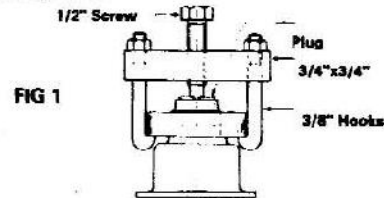

FIG 1
7. Remove bearing (see fig 1). Attach two forks on bearing 180 degrees apart. Tighten extractor screw against plug, extracting bearing. Plug should be solid steel 7/8" o.d. x 9/16" long with one end slightly countersunk to match extractor screw.